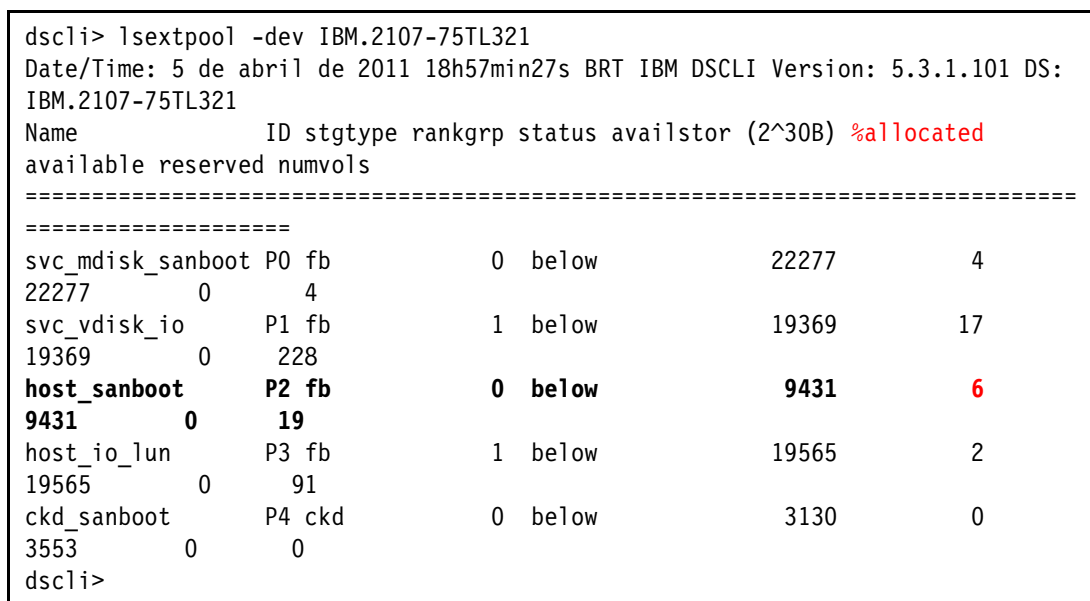

Figure 3-41 Select the pool to create the SAN Boot LUNs
2. Select the pool with required space to be used for SAN Boot LUNs as shown in Figure 3-41.